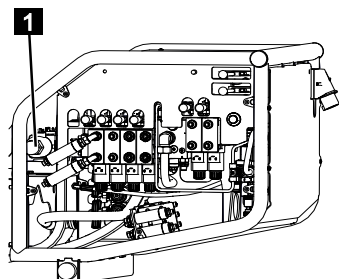

Fig. 174
7. After emergency operation, unlock the valve (Fig.174/1) by turning it anti-clockwise and screw the cover back into place.